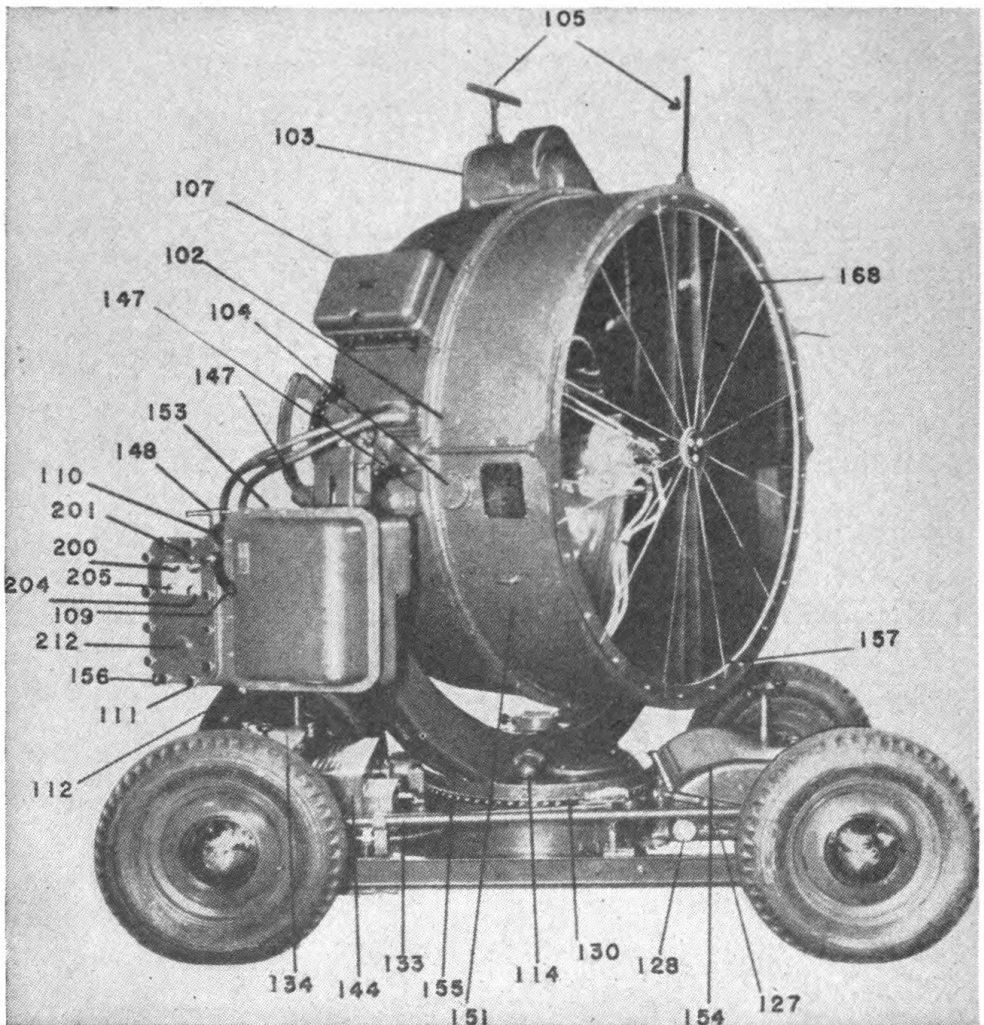

FIGURE 12.—General Electric M1940 searchlight (front quarter view).
Q. Point out the various parts of the M1940 General Electric searchlight. *A.* See figures 12, 13, 14, and 15.